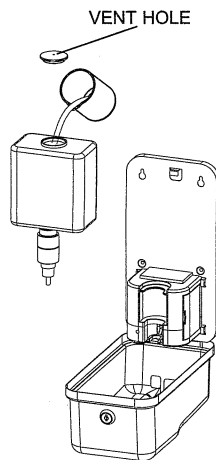
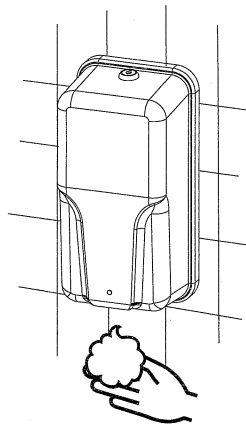

fig. 8
fig. 9
4. Clean out and refill (fig. 8) the included reusable soap reservoir and put it back. Ensure correct foam soap is used (see section 1), cover is closed, air vent is open, nozzle is not clogged, tank is clean and not leaking.
5. Observe that the LED is lit blue and then flashes four (4) times indicating proper operation "stand-by" condition and battery charge level (push up the cover safety interlock switch on bottom to click and hold it).
7. Trigger the sensor with hands or a towel to check proper soap dispensing cycle (fig. 9).
2. Open cover on battery compartment, remove battery box and unplug cable; install four (4) new Alkaline Type AA 1.5V batteries with correct polarity (note the +/- indication, fig. 9).
6. Observe that the LED is lit blue and then flashes four (4) times indicating proper operation "stand-by" mode (see step 5 in Section 6 above).